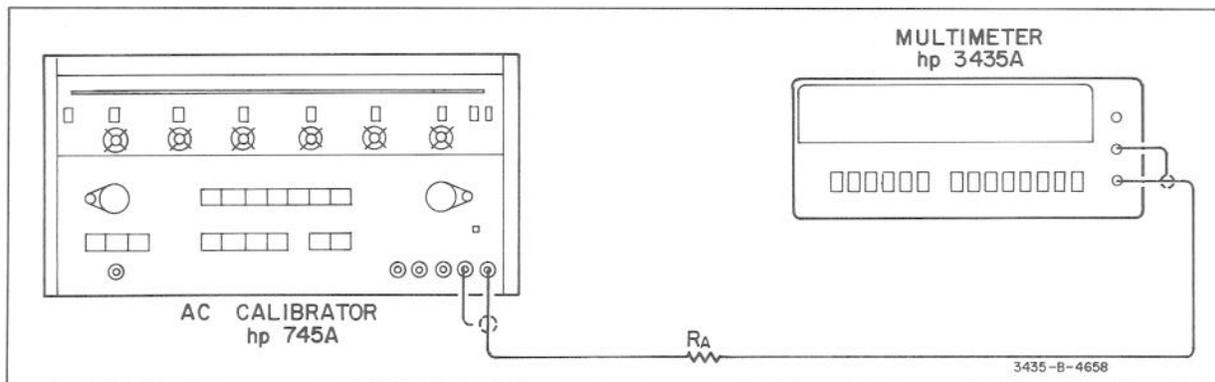

Figure 5-3. AC Ammeter Accuracy Test 200 μ A thru 20 mA Range.
a. Connect the equipment as shown in Figure 5-3 using the decade resistor box to select the value of R_A . Set the